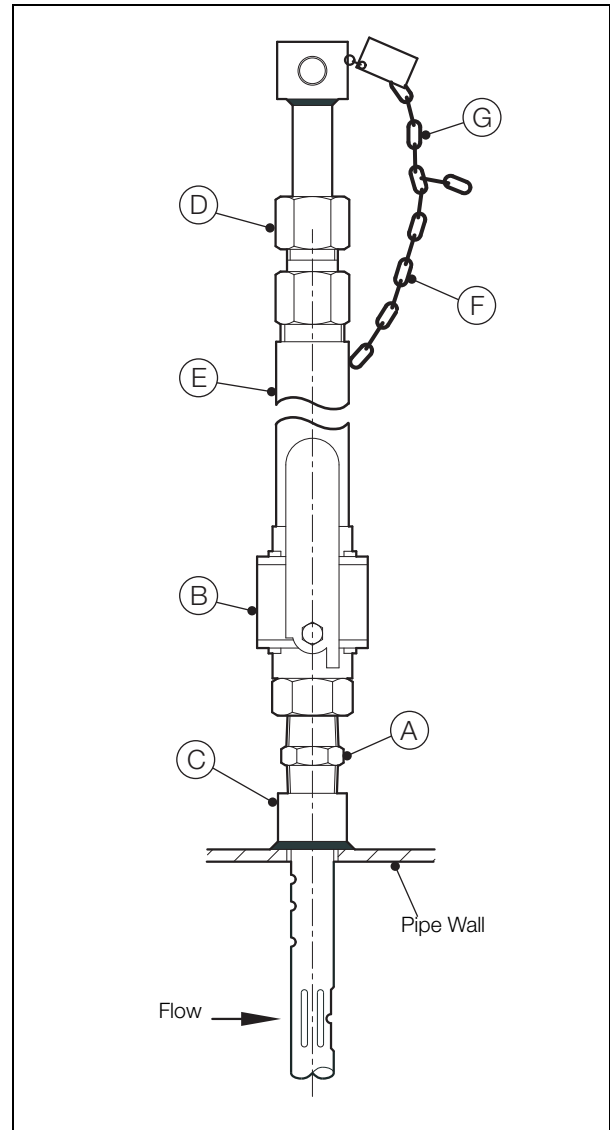

Fig. 2.10 Models L601 and L701 Installation
5. Referring to Fig. 2.10:
- a. Apply suitable sealant to the close nipple (A) and isolation valve (B) and fit them to the threaded fitting (C). Tighten securely.
- b. Attach hot-tap drilling equipment to isolation valve (B) in accordance with the manufacturer's instructions.